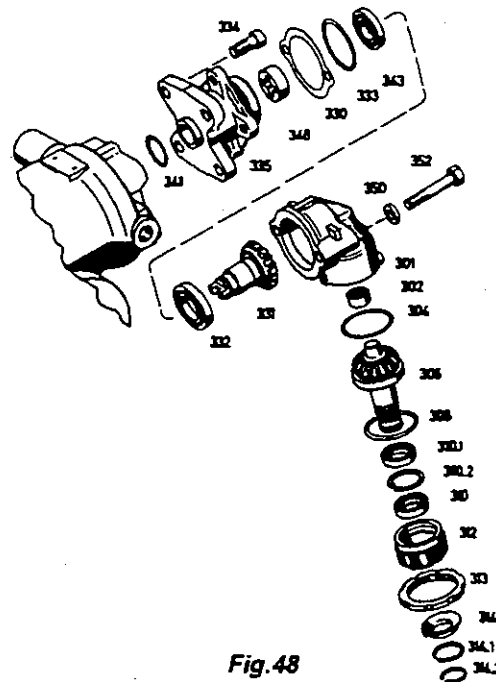

Fig.48
17.1.1 Fit intermediate flange (335)
Slip O-ring (341) onto intermediate flange (335). Press cross disc (348) and ball bearing (343) onto intermediate flange (335) (Fig.48). Use tool [28] for this purpose.
Press needle sleeve (302) into housing (301) as far as possible with tool [29] (Fig.48).